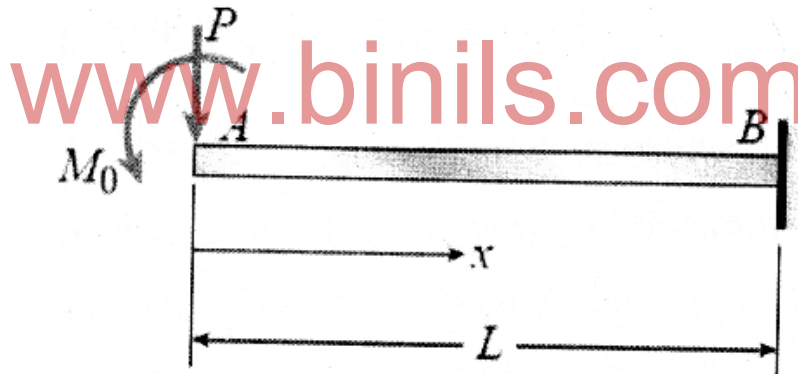

Figure 2
12. (a) State Castigliano's first theorem. Consider a cantilever beam AB carrying a concentrated load P and a couple of moment M_0 acting at the free end as indicated in Figure 2. We wish determine the vertical deflection and angle of rotation at the free end of the beam. Obtain required quantities using Castigliano 's theorems. (13)